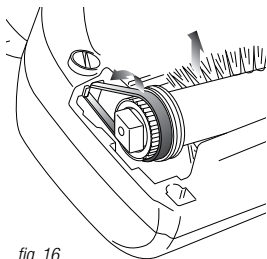

fig. 16
- Slip the black belt off of the white gear and lift out the brush roll. (fig. 16)